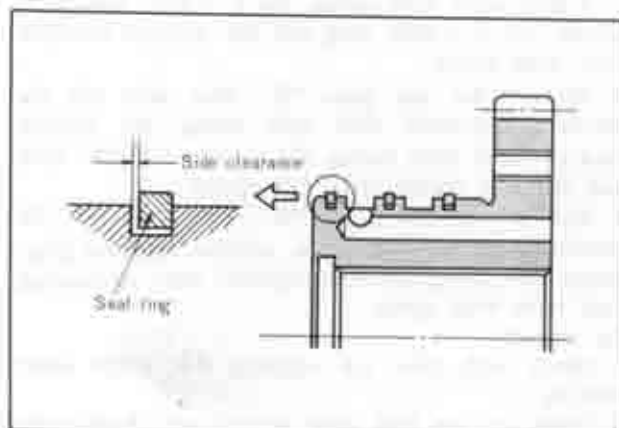

Fig. 7B-39 Clearance of oil seal ring
3. Check the side clearance between the sealing and groove as shown in Fig. 7B-39. The standard clearance is $0.04 \sim 0.16$ mm ($0.002 \sim 0.006$ in). When disassembling the seal ring, squeeze it up so that its joint will rise above the groove, and disconnect the joint.